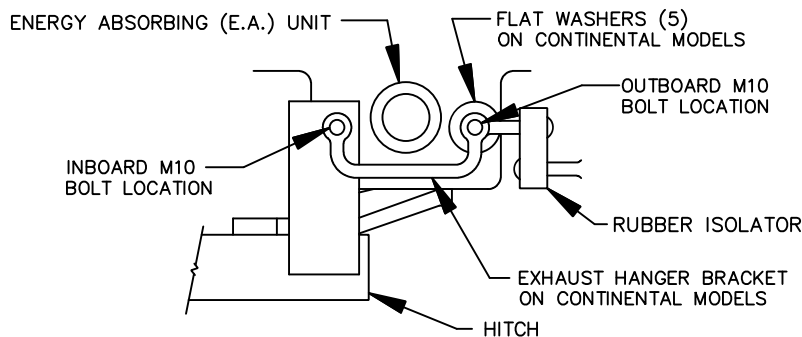

FIGURE 3.
NOTE: IN ADDITION, ON 88-94 CONTINENTALS AND TAURUS SHO WITH DUAL EXHAUST, REINSTALL EXHAUST HANGER BRACKETS WITH FIVE (5) 1/2" WASHERS PLACED ON EACH OUTBOARD SIDE AS SPACERS AND M10 BOLTS, ONE (1) PER SIDE, SEE FIG. 3.